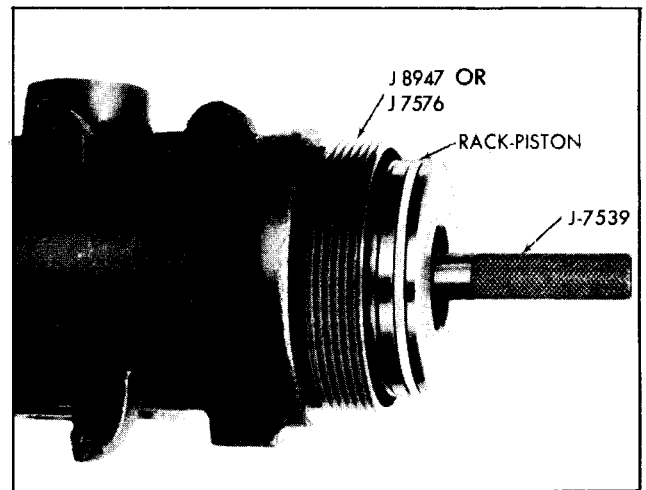

Fig. 9-109 Installing Rack-Piston
- c. With ball retainer J 7539 in place in the rack-piston, push the rack-piston (with teeth toward pitman shaft opening), into the housing until tool J 7539 contacts the center of worm (Fig. 9-109).